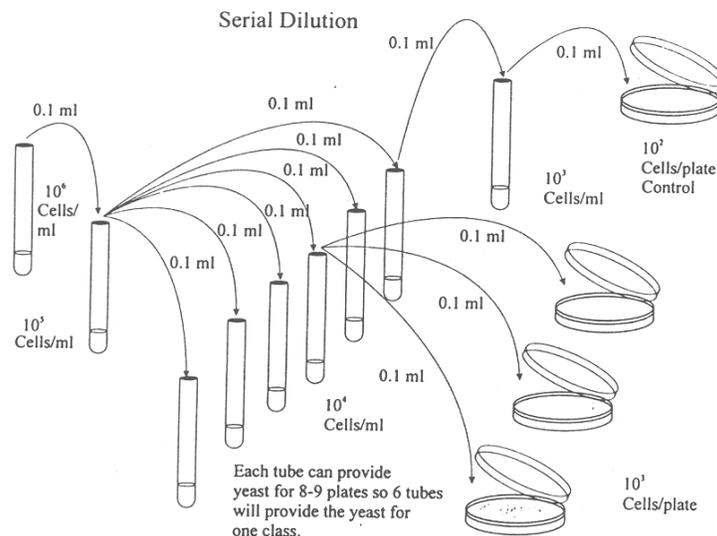

Figure 6.1.
1. Pipette 0.9 ml of sterile water into each of 10 sterile test tubes. Clearly label and arrange these tubes in a rack so that you can keep them in order. (Fig. 6.1) This will make it easier to keep track of the dilution steps.